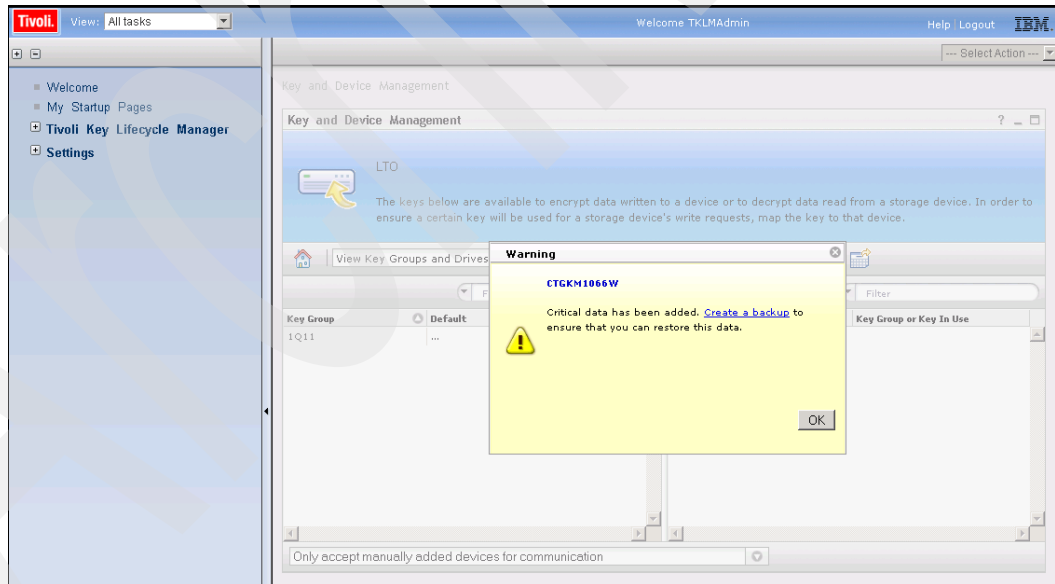

Figure 9-48 LTO key group warning message
5. A pop-up window advises you to create a backup (Figure 9-48). Click **OK** to continue.